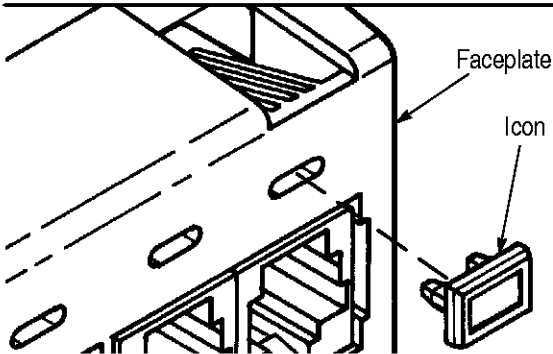

Figure 5
5. Insert icon into the appropriate slot above the 110Connect jacks. See Figure 5.